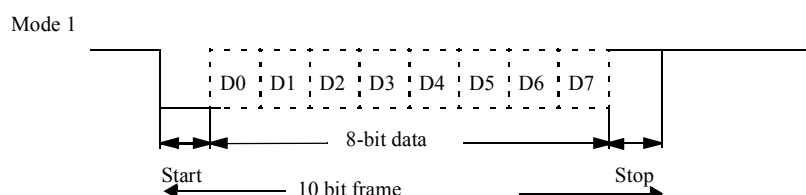

Figure 1. Data Frames
The Figure 1 shows the format of a standard 10-bit asynchronous frame: 1 start bit (0), 8 data bits, and 1 stop bit (1). The start bit is used to synchronize the receiver to the transmitter; at the leading edge of the start bit the receiver must set up its timing logic to sample the incoming line in the center of each bit. Following the start bit are eight data bits which are transmitted least significant bit first. The stop bit is set to the opposite state of the start bit to guarantee that the leading edge of the start bit will cause a transition on the line. It also provides a dead time on the line so that the receiver can maintain its synchronization.